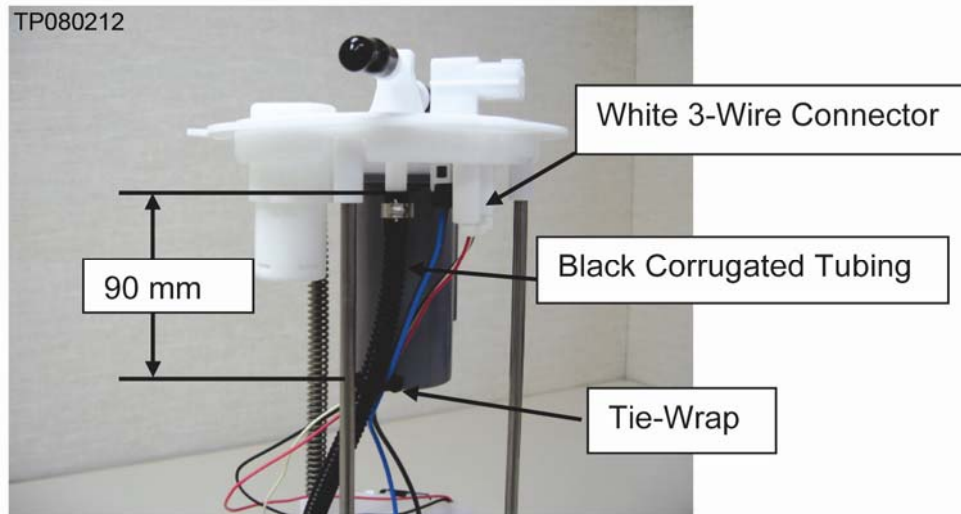

Figure 13
- d. Connect the White Wire Connector into the top of the Fuel Pump (see Figure 13).
- f. Use the **new** Tie-Wrap to secure all the wires to the black corrugated tubing. These include the three fuel level sending unit wires and the two fuel pump wires (see Figure 13).